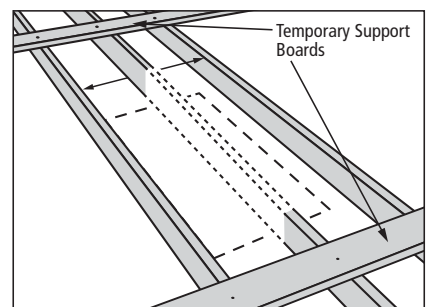

FIGURE 14
B. Rough opening with joist removal (figure 14)